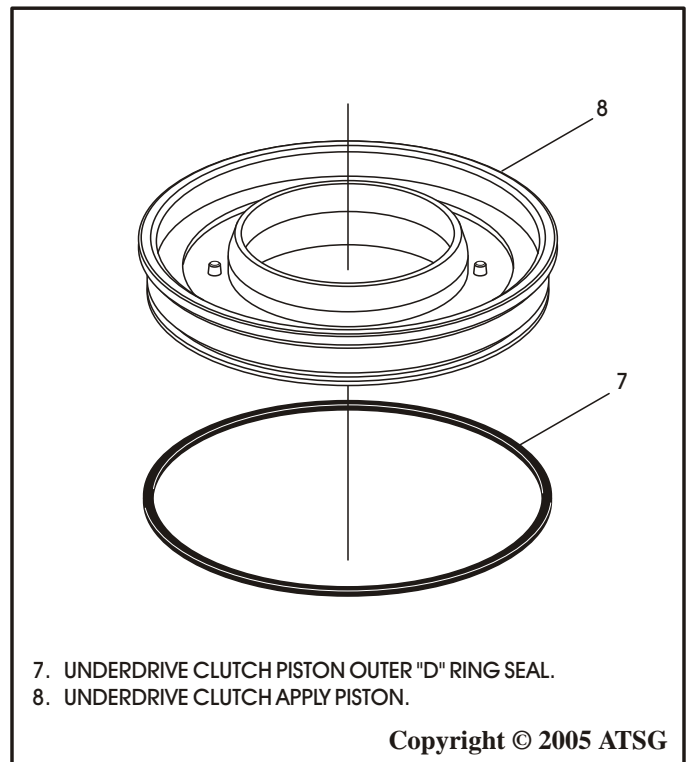

Figure 111
5. Install new underdrive clutch outer "D" ring seal onto underdrive clutch apply piston, as shown in Figure 111, and lube with a small amount of Trans-Jel®.